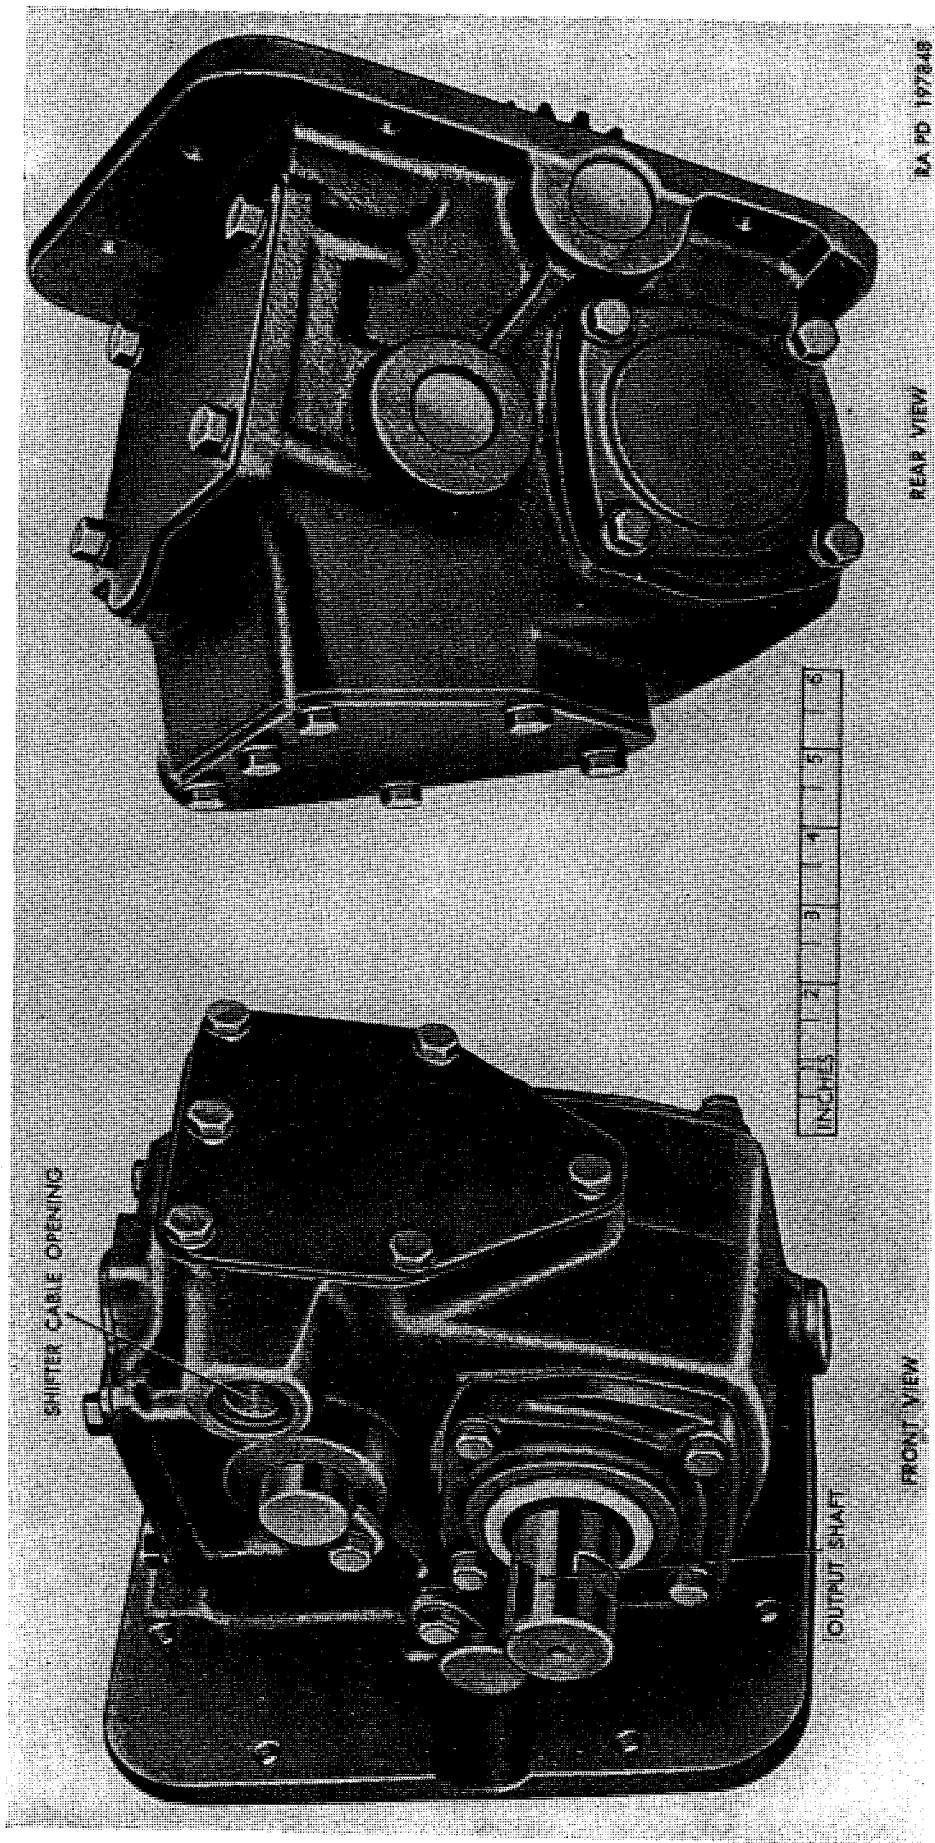

Figure 218. Front and rear views of winch power-take-off assembly.
- (1) *Power-take-off (winch only)*. Power-take-off used on vehicles equipped with winch only is illustrated in figure 218. This unit has a single output shaft at forward side of power-take-off. Control cable is also attached at forward side.